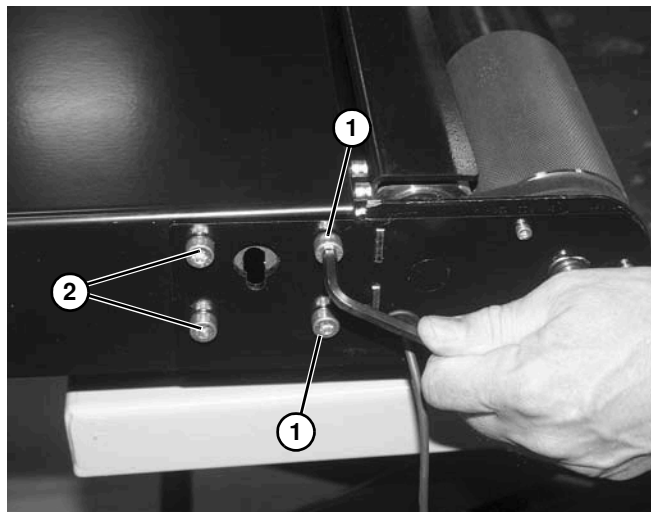

Figure 198
4. Loosen two screws (**Figure 198, item 1**) on each side and end of conveyor
5. Remove two screws (**Figure 198, item 2**).